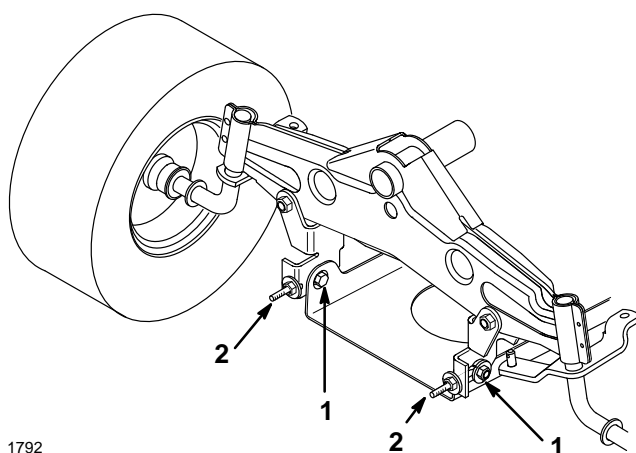

Figure 53
7. To adjust front-to-rear blade slope loosen front pivot plate mounting bolts slightly (Fig. 53).
8. Rotate lock nuts on eyebolts to change adjustment (Fig. 53). To raise the front of the mower, tighten the eyebolt lock nuts. To lower the front of the mower, loosen the eyebolt lock nuts.
9. After adjusting both eyebolt lock nuts evenly, check the front-to-rear slope again. Continue adjusting eyebolts until the front blade tip is 0–3/8" (0–9.2 mm) lower than the rear blade tip (Fig. 53).
10. When front-to-rear slope is correct, tighten the pivot plate mounting bolts (Fig. 53).